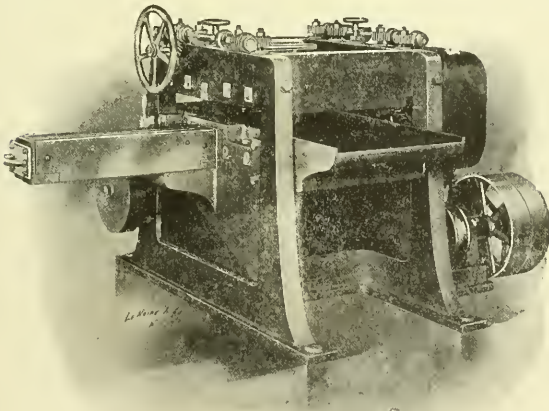

Fig. 280
97. **Scraping-machines** (Fig. 280) are valuable where much nice work is done. The boards are run through as through a planer and are given an even surface and satin-like finish. The principle is the same as that of the hand-scraper (page 61). Fig. 281 shows the edge of a